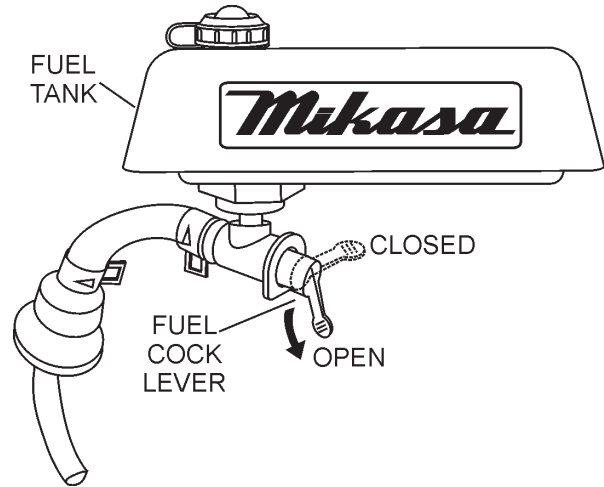

Figure 7. Fuel Shut-Off Valve (ON)
1. Open the **fuel shut-off valve** by moving the **fuel cock** lever to the **open** position (Figure 7).